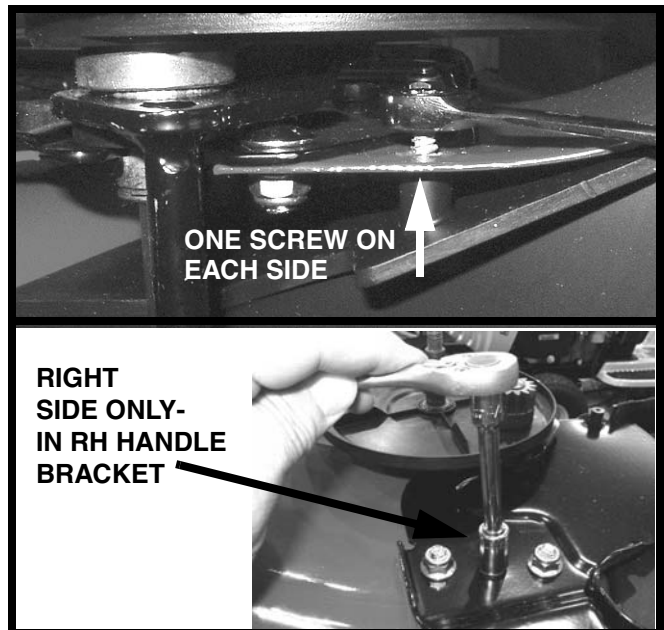

FIGURE 2
9. Using a 3/8” ratchet style box wrench & 3/8” socket, 1/4” drive extension & 1/4” drive ratchet, remove the baffle retaining screws (total of 3). See Figure 2.